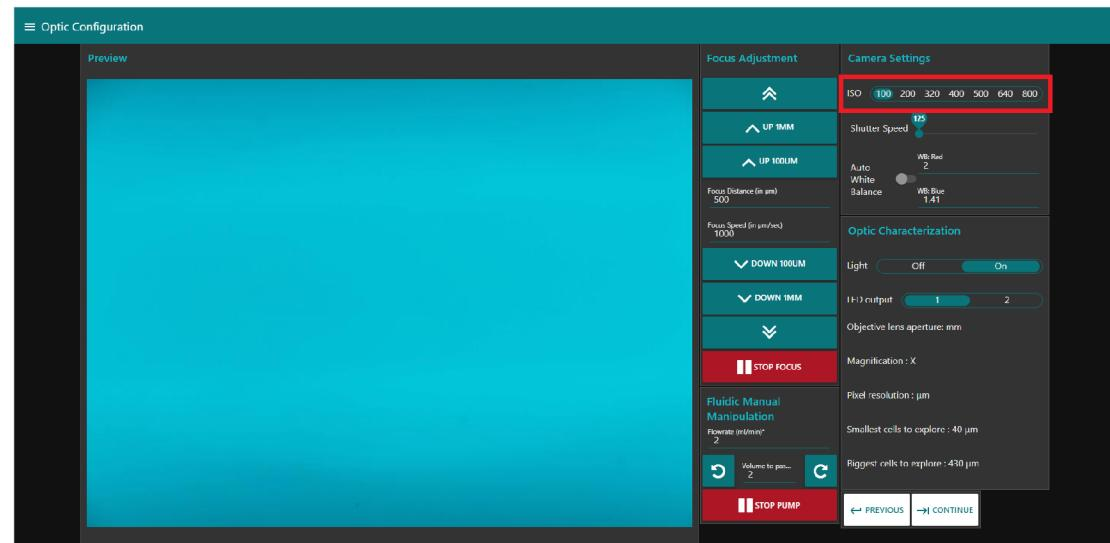

Figure 6: The red box highlights the location of the ISO setting. You should see your Preview image change color when you adjust this setting.
d) Under Camera Settings, you can see a button to change the ISO value (fig.6). **Set the ISO to 100.**